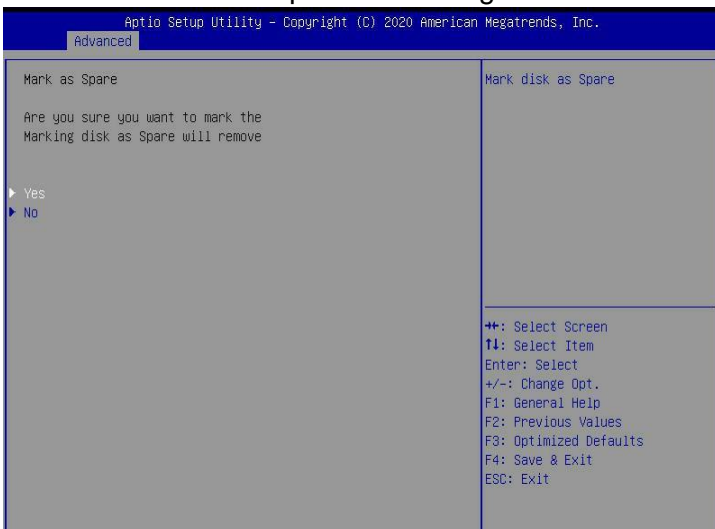

Figure 6-10
c) Enter the interface shown in Figure 6-10, select "Yes", and press Enter to complete the hot spare disk configuration.
✧ Figure 6-10 Confirm hot spare disk configuration